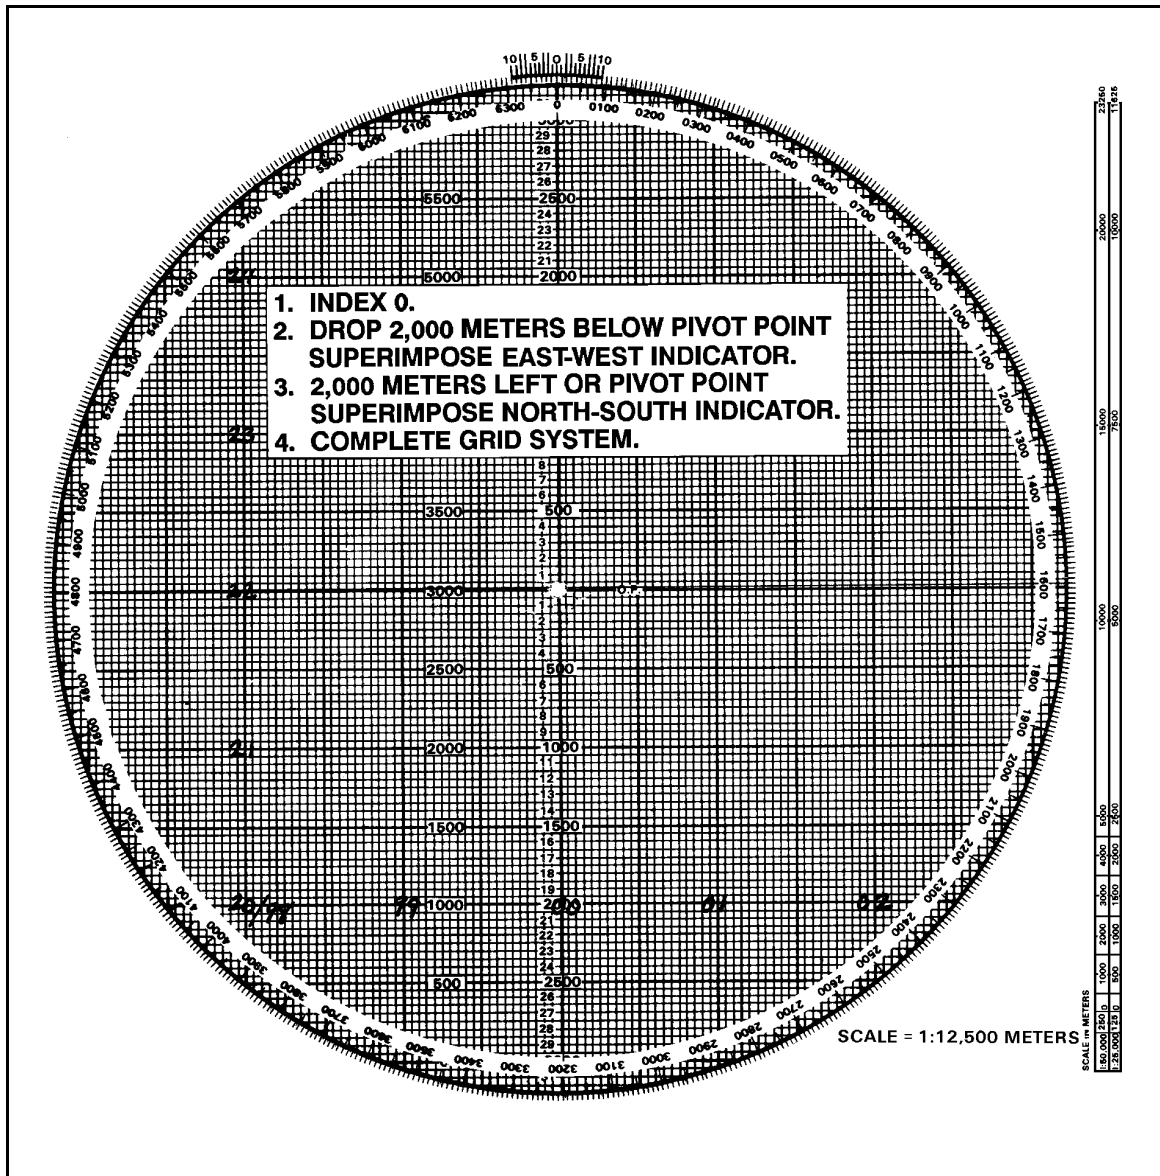

Figure 12-16. Superimposition of the grid.
b. **Superimposition of Grid System on Plotting Board.** Once the grid intersection has been determined, the computer indexes "0" on the azimuth disk. He then drops down 2,000 meters below the pivot point and writes in the east/west indicator on the vertical centerline at the 2,000-meter mark. Next, he goes 2,000 meters to the left of the pivot point on the heavy center horizontal line and writes the north/south indicator. To complete the grid system, the computer writes in the other north/south, east/west grid numbers as though looking at a map. By numbering every other heavy dark line (two large squares) on the plotting board, he retains a scale of 1:12,500 on the board (Figure 12-16).